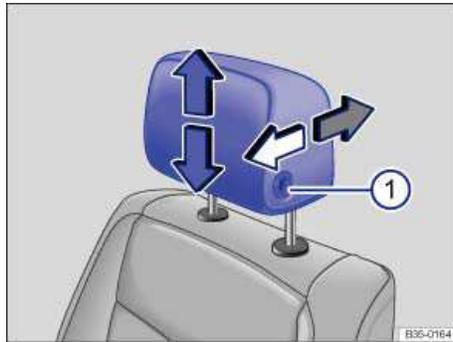
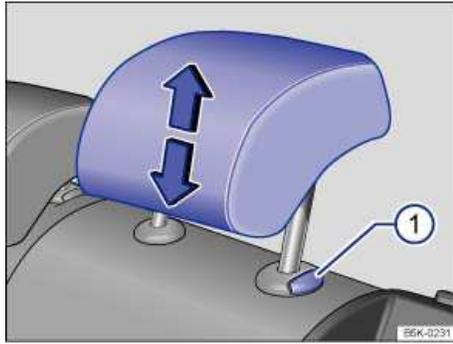

Fig. 48 Adjusting the front head restraints.
Fig. 49 Adjusting the rear head restraints.
- Pull the head restraint up in the direction of the arrow, or push it down while pressing the button ⇒ fig. 48 \(1\) or ⇒ fig. 49 \(1\) ⇒ ⚠.
- Push the head restraint forward in the direction of the arrow or slide it back with the button pressed ⇒ fig. 48 \(1\).